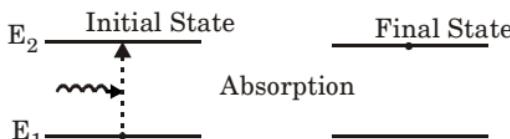

Fig. 11.
4. Fig. 11 illustrates a two energy state where an atom is initially in lower energy state E_1 .